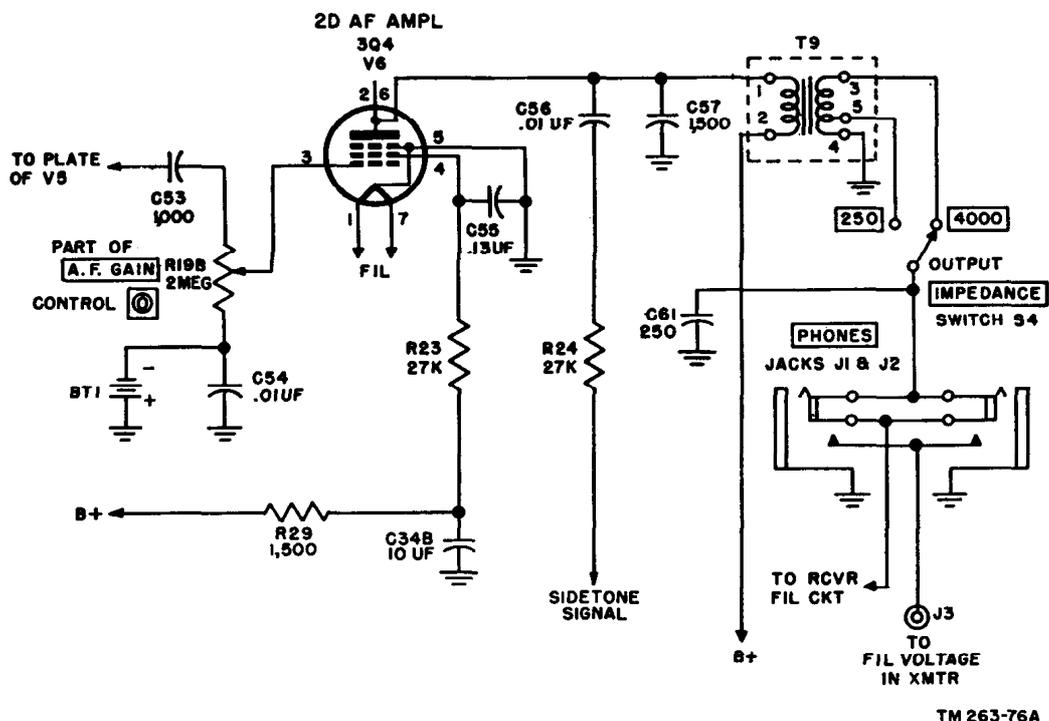

Figure 63. Second audio amplifier, simplified schematic diagram.
93. Second Audio Amplifier (fig. 63)